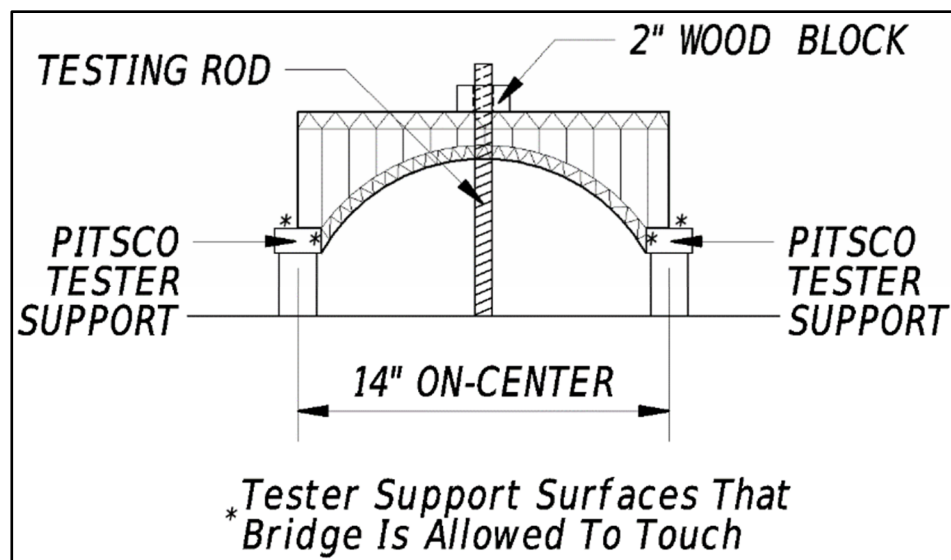
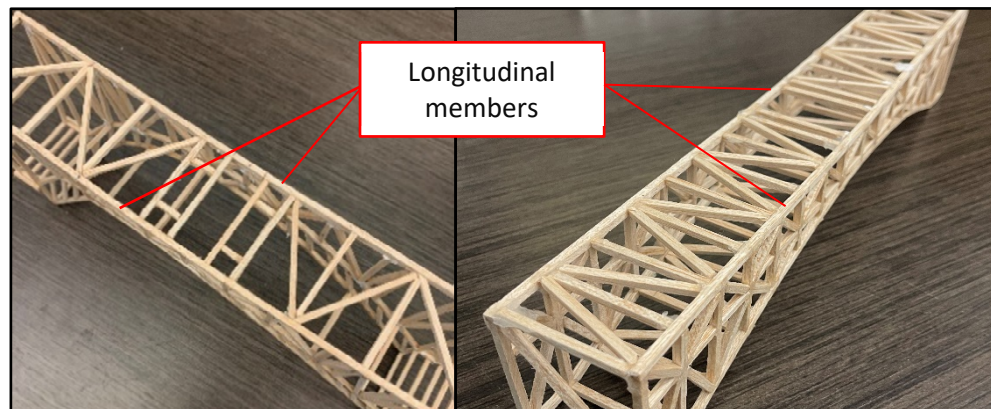

Figure 7. Tester Configuration Detail
Figure 11. Acceptable Cross Framing
- e) End to end, the length of the entire bridge must be 14 inches, refer to Figure 7.
- g) The area where the bridge will be loaded (center of the bridge) must have at least a  $\frac{3}{4}$ -inch hole to allow a  $\frac{5}{8}$ -inch testing rod to pass through. The rod must also be able to pass through full height of the structure to insert the rod into the tester. This is required to attach the rod to a 2-inch x 2-inch block of wood used for strength testing by the Pitsco Tester. An example configuration can be seen in Figure 7. The block of wood must be able to be pushed across the top surface of the bridge (a solid bridge deck of any kind is not allowed). No more than 2 longitudinal members will be permitted in any single horizontal layer of the bridge structure (refer to Figures 11 & 12 for more detail). Please note, figures do not represent the required design and shall only be used for reference.
- h) Tester supports will be placed at 14 inches on center. Support dimensions are shown above in Figure 7.